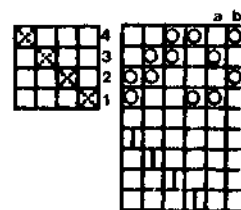

FIGURE 1. Threading, tie-up and treadling
**THREADING, TIE-UP AND TREADLING:** see Figure 1